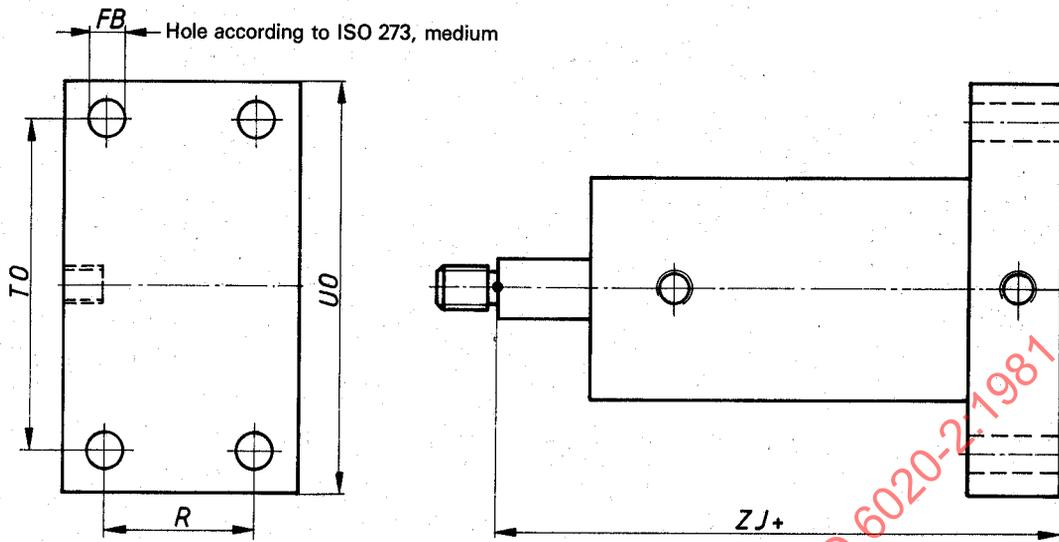

Figure 3 – ME6 – Cap rectangular mounting
- ME6 — Cap rectangular mounting (see figure 3 and table 3)